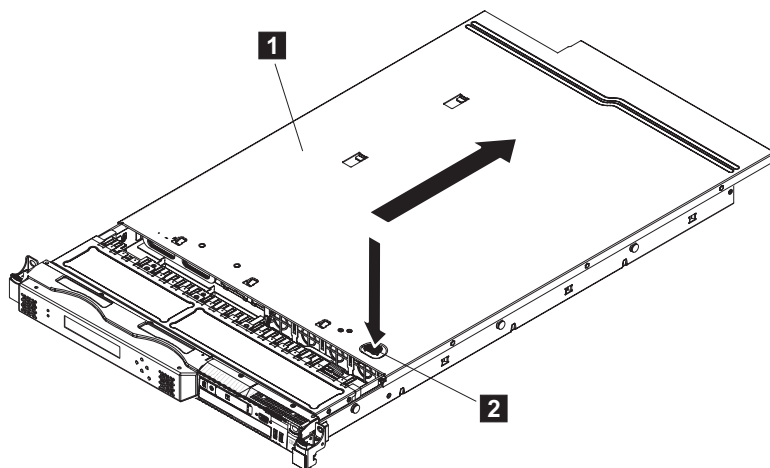

Figure 68. Removing the SAN Volume Controller 2145-CF8 cover
7. Press down firmly on the blue tab (**2** in Figure 68) that secures the cover (**1**) and slide the cover toward the rear of the node until the cover disengages the chassis.